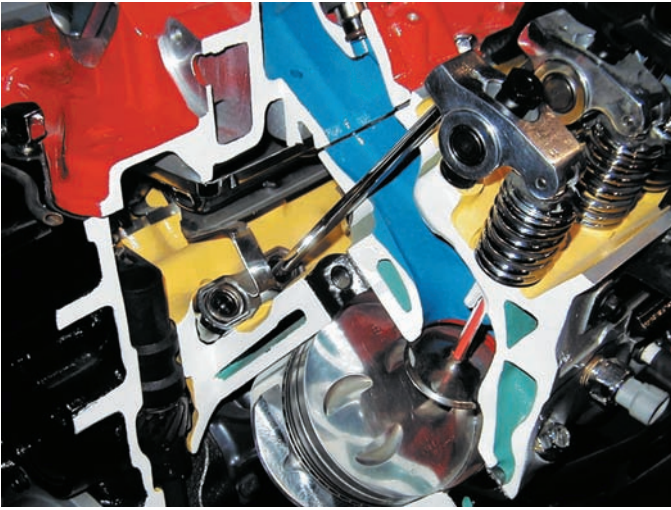

FIGURE 10-11 Cutaway of an overhead valve (OHV) V-8 engine showing the lifters, pushrods, roller rocker arms, and valves.
- **Overhead valve (OHV)**, because an overhead valve engine has the valves located in the cylinder head (● **SEE FIGURE 10-11.**)